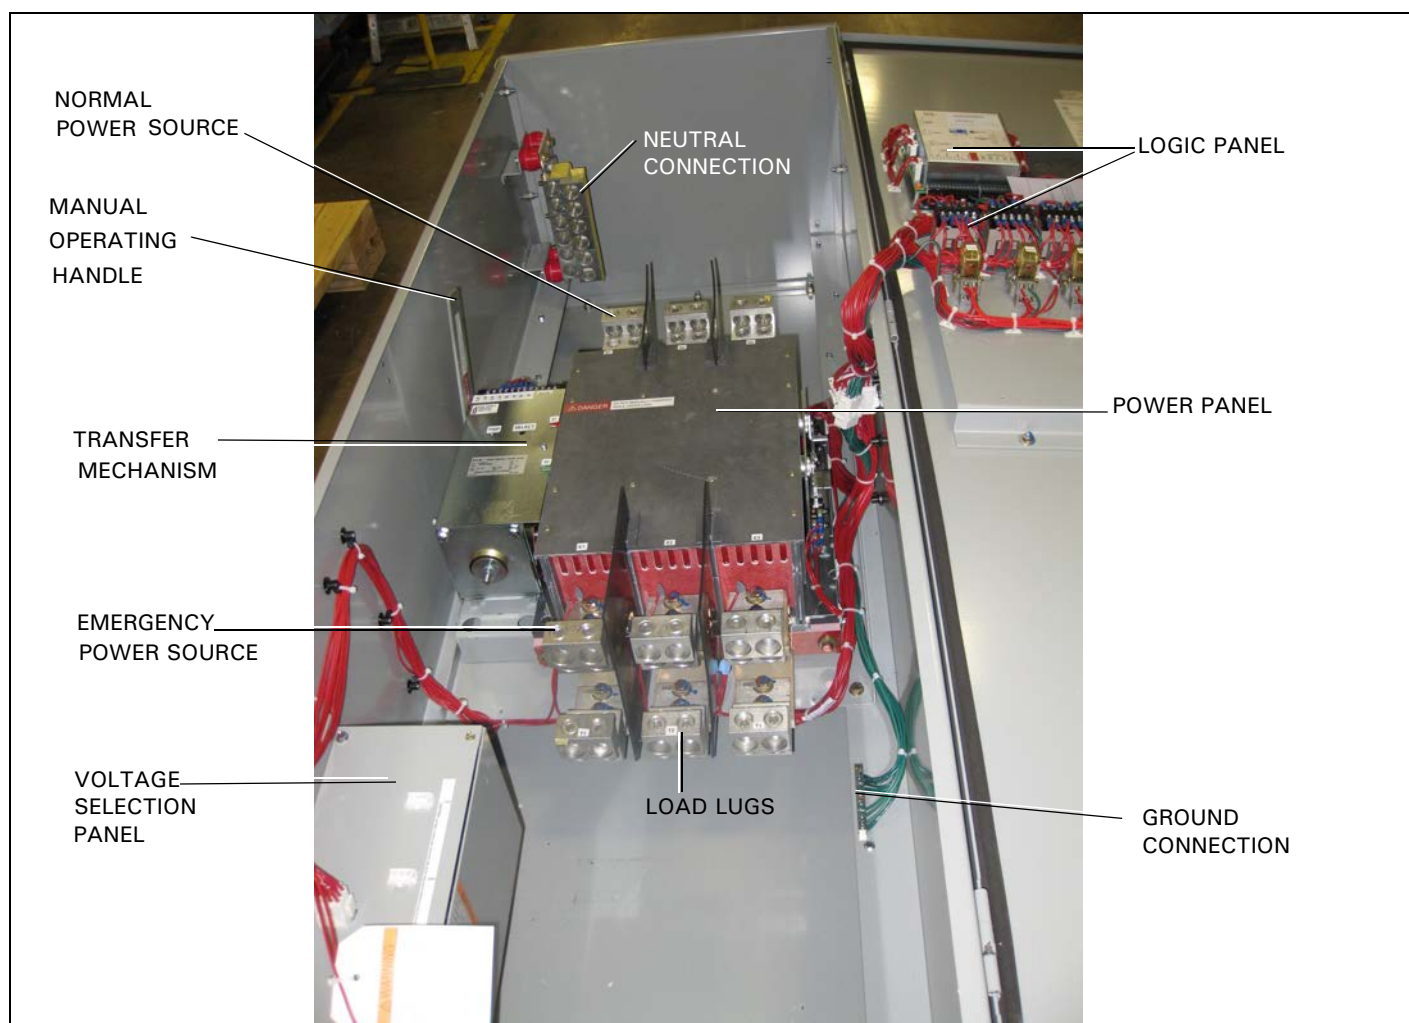

Figure 23. 1200A, 3-Pole, ATS Interior Components.
*Load cables MUST be connected and torqued BEFORE installing the SUPPLY cables (Figures 23).